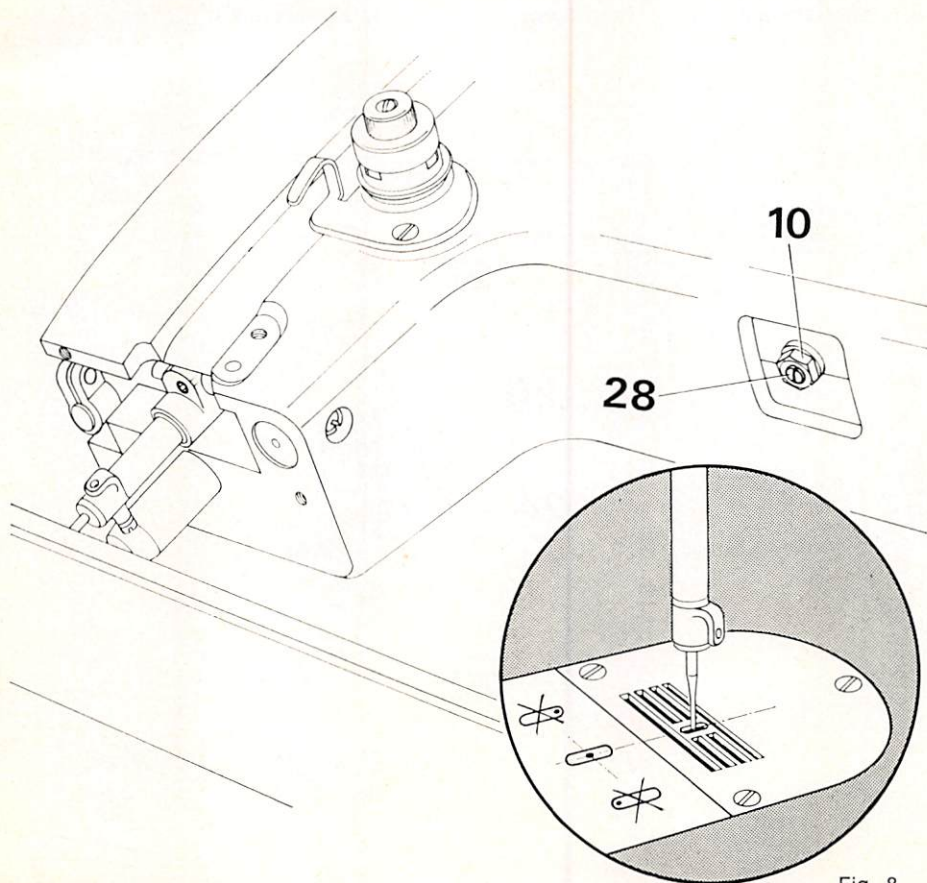

Fig. 8
5. **Adjusting the Needle in the Needle Hole Sideways (Fig. 8)**